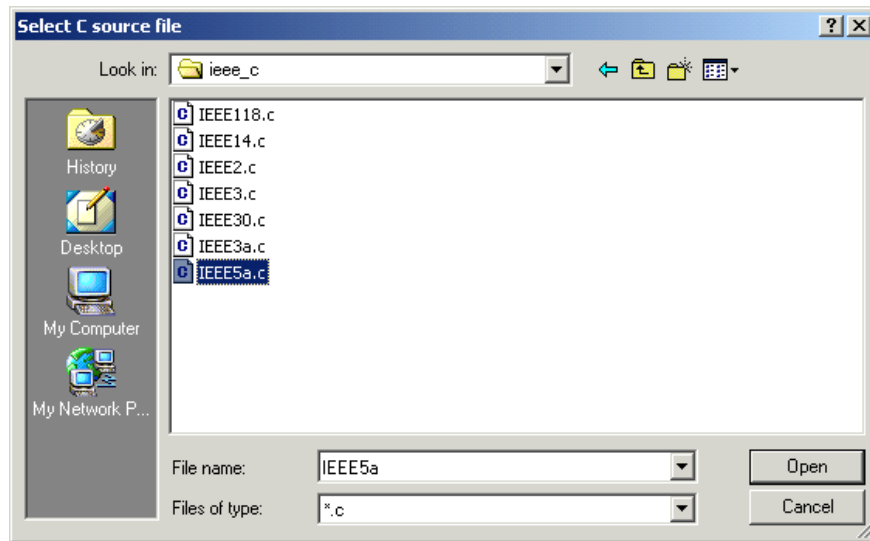

Fig. A.15 The Compile dialog box
- This will activate the dialog box shown in Fig. A.15.